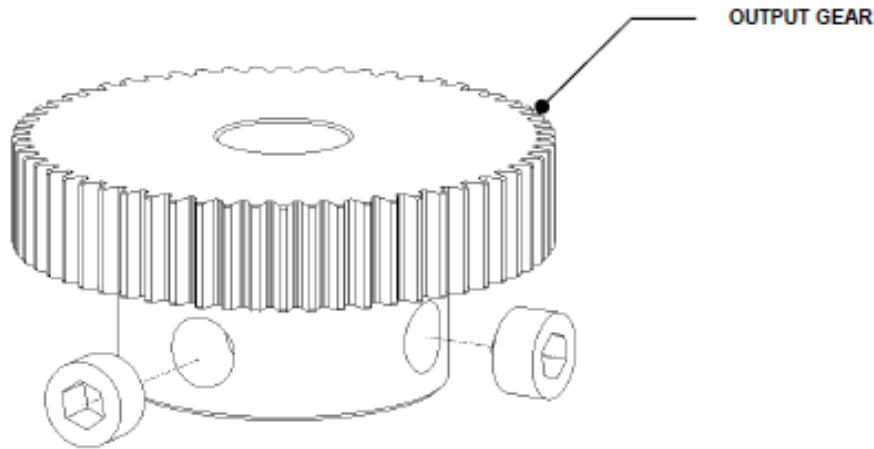

Figure R-12: Output Gear and Set Screws
1. Obtain a new Output gear and loosely fit two M4 x 4 Cone Point Set Screws (Figure R-12).